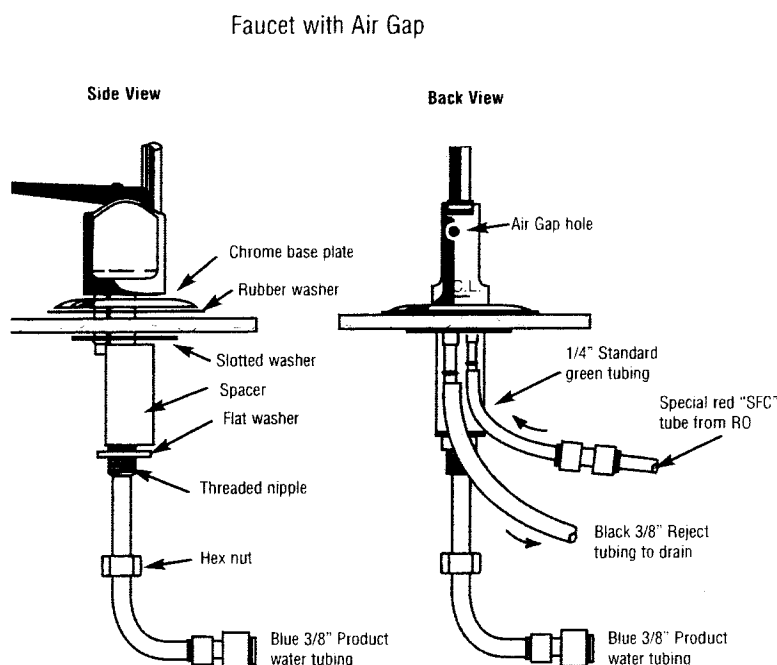

Fig. 2
- 1) Familiarize yourself with all of the components shown in the air gap faucet diagram. (See Fig. 2)